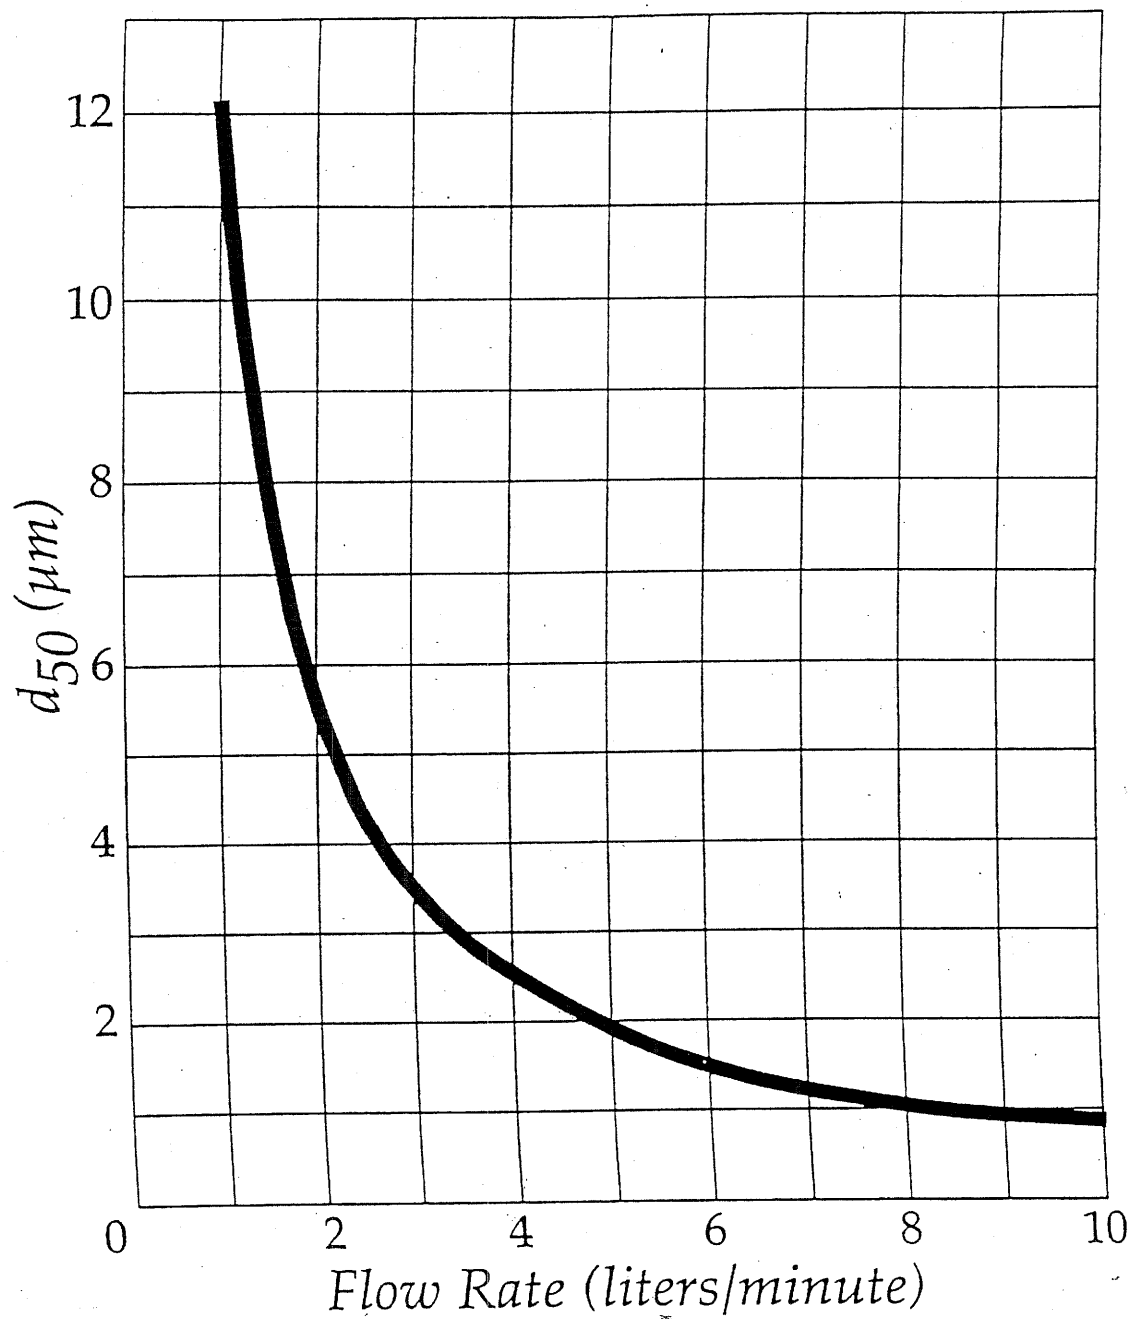

Figure 7. GK 2.05 Cyclone Cut Point (d_{50}) as a Function of Flow Rate
The pDR-1200 can be used to monitor a specific particle size fraction below a selectable cut off equivalent aerodynamic diameter. The particle size cut point can be selected by adjustment of the sampling flow rate. The higher this flow rate through the cyclone the smaller the cut off particle diameter. Figure 7 is a graph showing the dependence of the particle cut off size in micrometers as a function of the sampling flow rate in liters per minute. The cut off size is the particle aerodynamic diameter at which the collection efficiency of the cyclone is 50%, or conversely, the size at which the cyclone transmission is 50%. For example, to obtain a particle size cut off of $2.5\ \mu\text{m}$ (i.e., PM_{2.5}), the required sampling flow rate is 4 liters/minute. At that flow rate only particles smaller than (approximately) $2.5\ \mu\text{m}$ are allowed to pass into the pDR-1200 sensing stage, to be monitored and then to be collected on the filter.
As can be seen on Fig. 7, the lowest particle size cut for the GK 2.05 cyclone included with the pDR-1200 is about $1\ \mu\text{m}$, and the largest is about $12\ \mu\text{m}$. For particle size classification outside this range, consult with MIE.
One simple procedure to determine the median particle size is as follows (please refer to the graph of Fig. 7):
- Enter the final flow rate for which the TWA value is one-half of the initial value into the graph of Fig. 7 and read the corresponding d50 particle size in micrometers. This represents the mass median particle diameter of the aerosol.
For example, if the TWA value without the cyclone was 0.8 mg/m^3 , and the flow rate (with the cyclone attached) required to reduce the TWA to 0.4 mg/m^3 is 2 liters/minute, the mass median particle size (as obtained from the curve of Fig. 7) is approximately $5.5 \text{ }\mu\text{m}$.